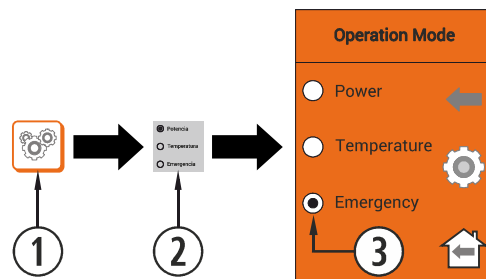

Figure 16
In order to have access to the weekly programming we have to press its icon (Figure 22) and we will have access to the programming screen. There we shall indicate which schedule we want to use for each week day. We have to **save** the programming and after, we have to enable the programming as indicated in point ④ of Figure 16.